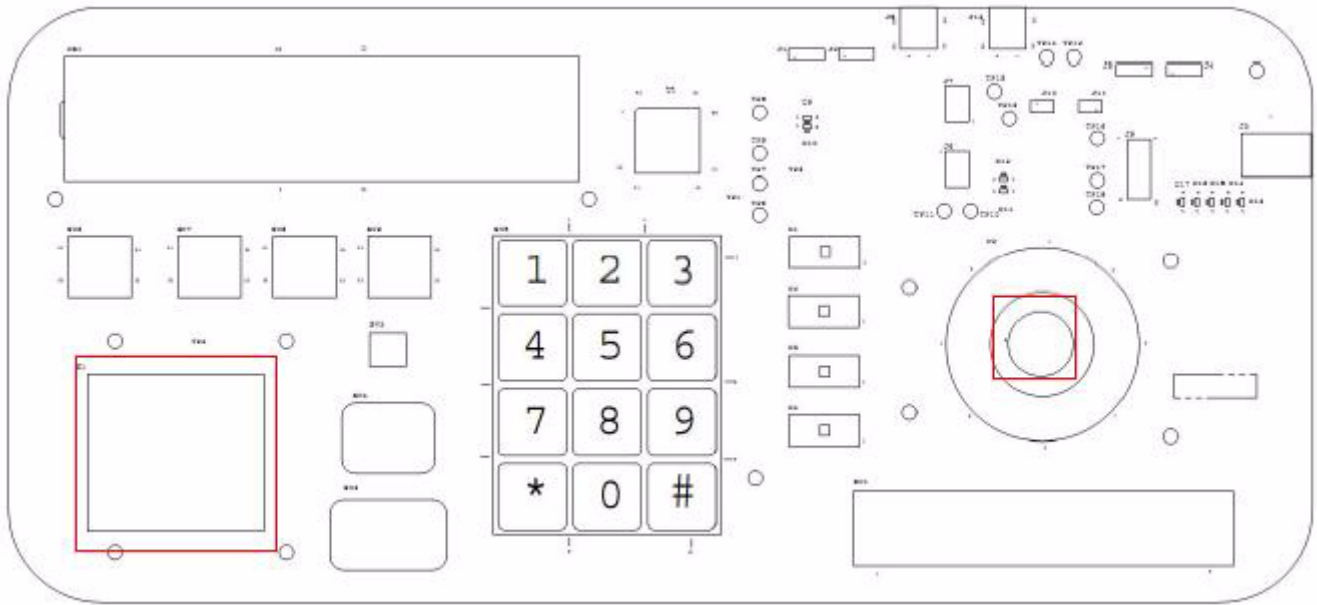

Figure 1-2. Buttons to navigate between demos
1. Touch the large electrode on the bottom left of the board simultaneously with the electrode in the middle of the rotary control for about three seconds. See Figure 1-2. The LCD then displays the demo being run on the number pad, and the name of the demo in the alphanumeric segment.